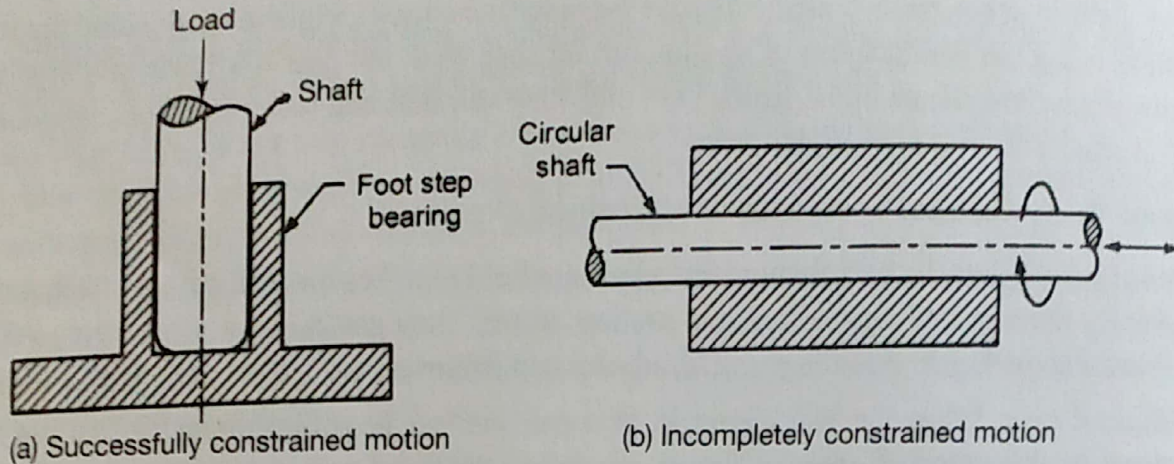

Fig.1.6 Types of constrained motion
- *Partially (or successfully) constrained motion*: When the constrained motion between a pair is not completed by itself but by some other means, it is said to be successfully constrained motion. For example, the motion of a shaft in a footstep bearing becomes successfully constrained motion when compressive load is applied to the shaft (Fig.1.6(a)).
- *Incompletely constrained motion*: When the motion between a pair can take place in more than one direction, it is said to be incompletely constrained motion, e.g. a circular shaft in a circular hole. (Fig.1.6(b)).